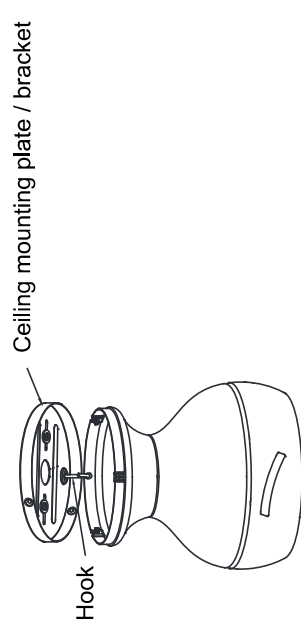

Fig. 6
Step 2. Hook the motor body onto the ceiling mounting plate/bracket as shown. You can now proceed with the electrical wiring of your fan (**Fig. 6**).